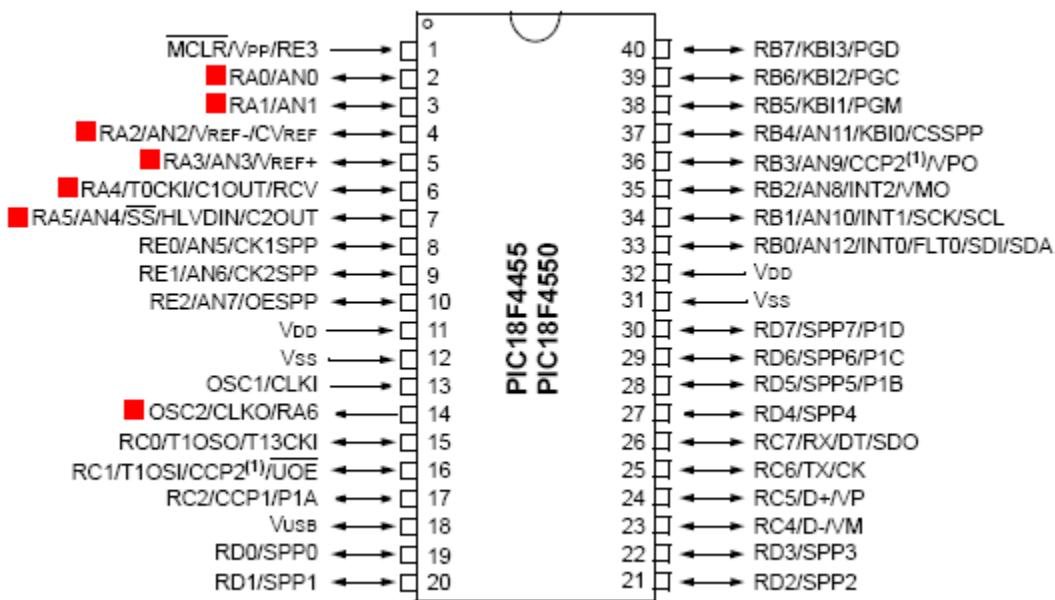

Figure 3.2 - PIC18F4550 I/O ports
- Examine the PIC18F4550 **pin diagram** (in Figure 3.2) again. Where are the 8 Port B pins RB7-0? What **other peripherals** use these pins?